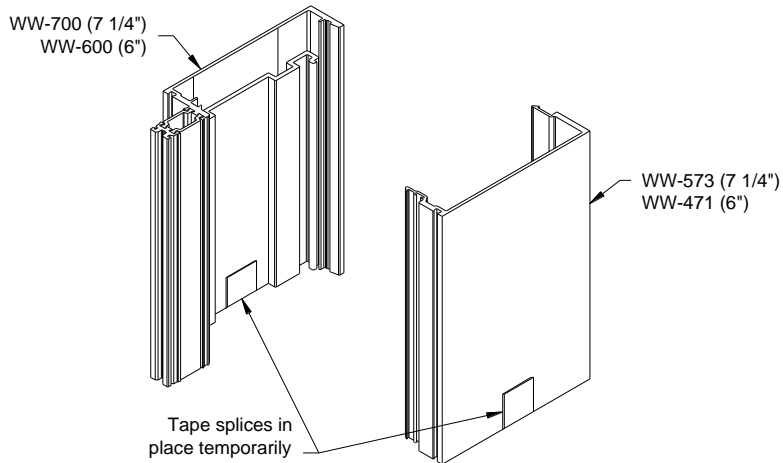
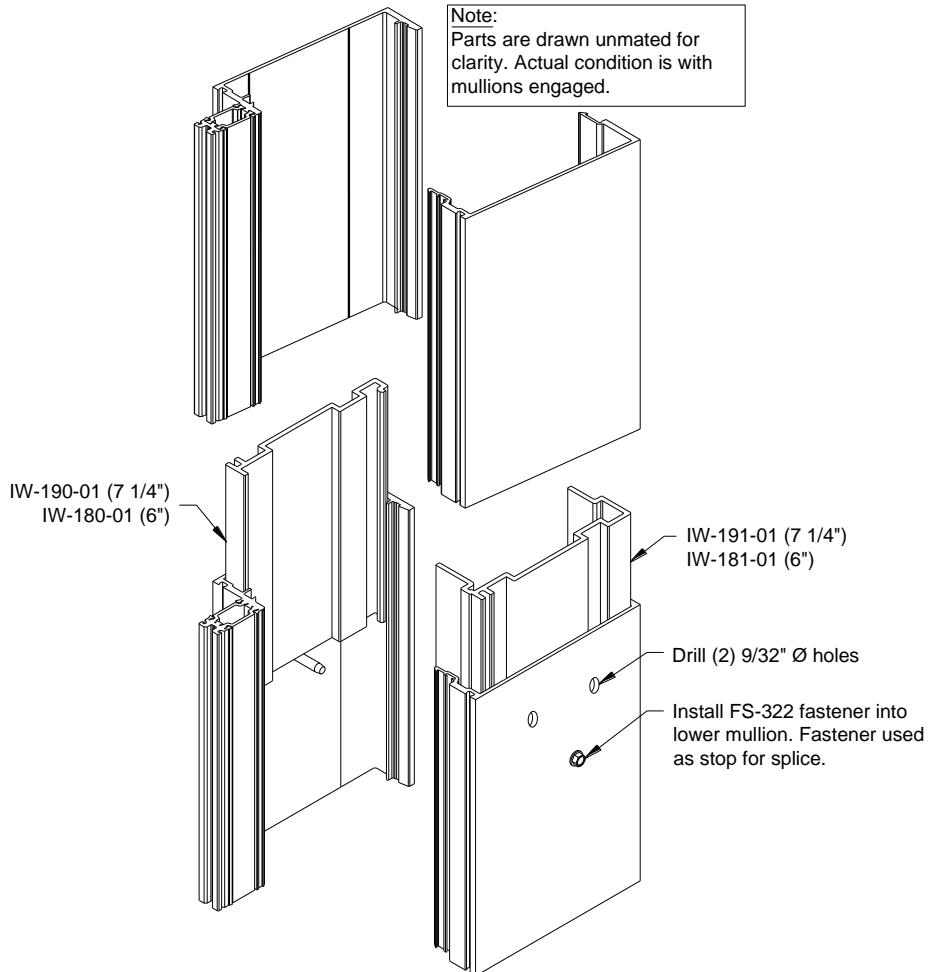

Figure 10: Splice Installation in Upper Mullions (Captured Shown, SSG Similar)
Figure 11: Splice Stop Screw
- 5.4 If mullions are spliced, slide splice sleeves into the bottom of the upper bay mullion. Secure with tape. **See FIGURE 10.** Install one (1) FS-322 #14 x 1" TEK screw into the top of the lower bay mullion to act as a stop screw for splices during frame installation. **See FIGURE 11.**